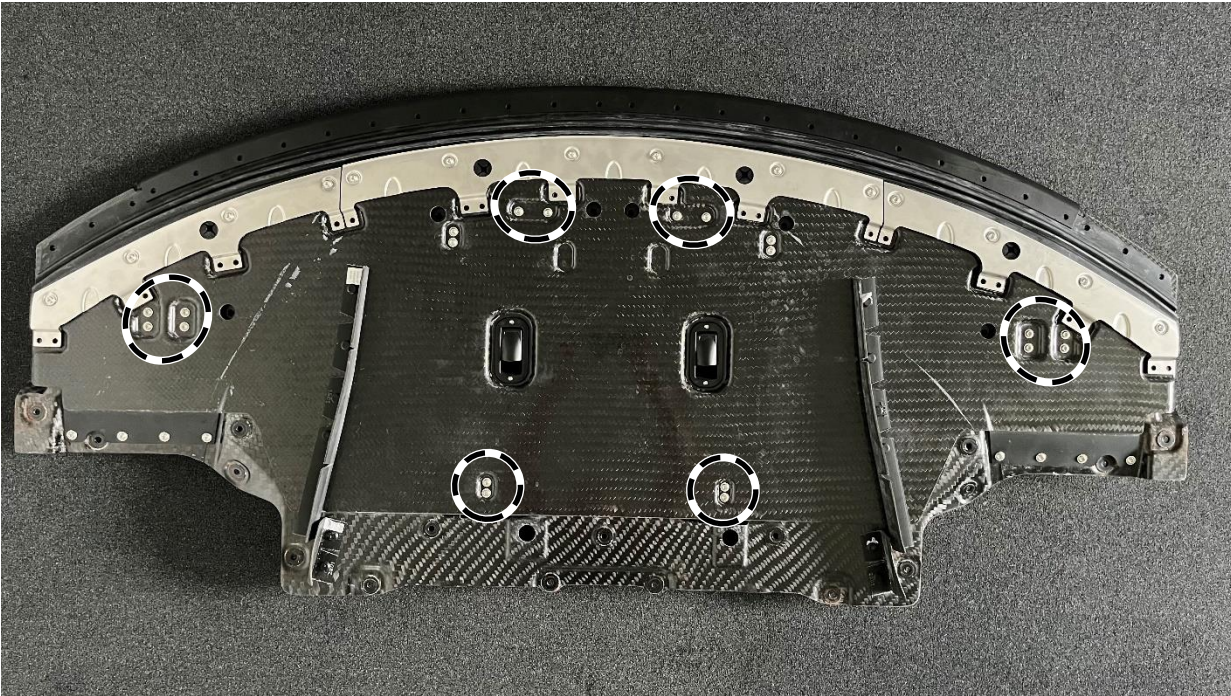

Figure 8
3. Remove screws for front diffuser lip, retaining straps and diffuser guide (figure 8).